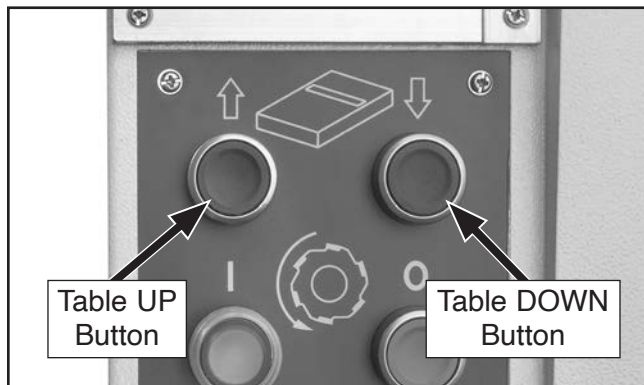

Figure 42. Location of table UP and DOWN buttons.
6. Verify power supply is connected to machine with correct polarity by pressing table UP and table DOWN buttons on control panel (see **Figure 42**).